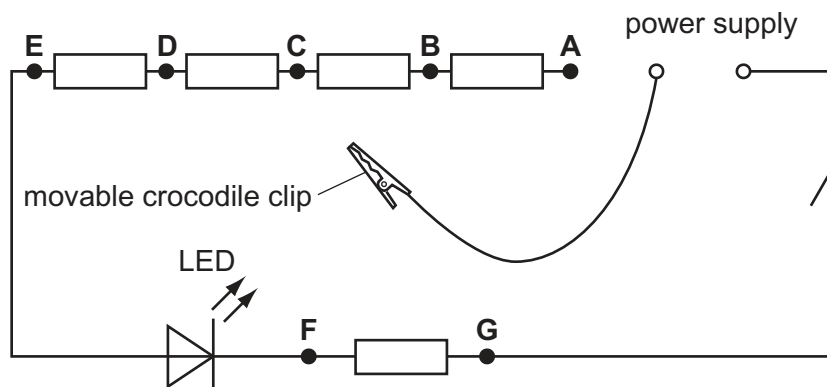

Fig. 4.1
3. Four of the $150\ \Omega$ resistors must be connected in series using crocodile clips labelled A to E as shown in Figs. 4.1 and 4.2. There must be room left to attach the movable clip to the wires between each labelled clip and the adjacent resistors.
The fifth $150\ \Omega$ resistor must be connected in series with the other four and the LED, as shown in Fig. 4.1, using crocodile clips labelled F and G.
5. These will be used to construct the circuit shown in Fig. 4.1.
The supervisor must ensure that the circuit is in the configuration shown in Fig. 4.1, that the LED still lights up when the switch is closed, and that the movable crocodile clip is not attached to any point in the circuit. If cells are used, they must be checked and replaced if necessary. The voltmeter and its connecting leads must be detached from the circuit and placed nearby.